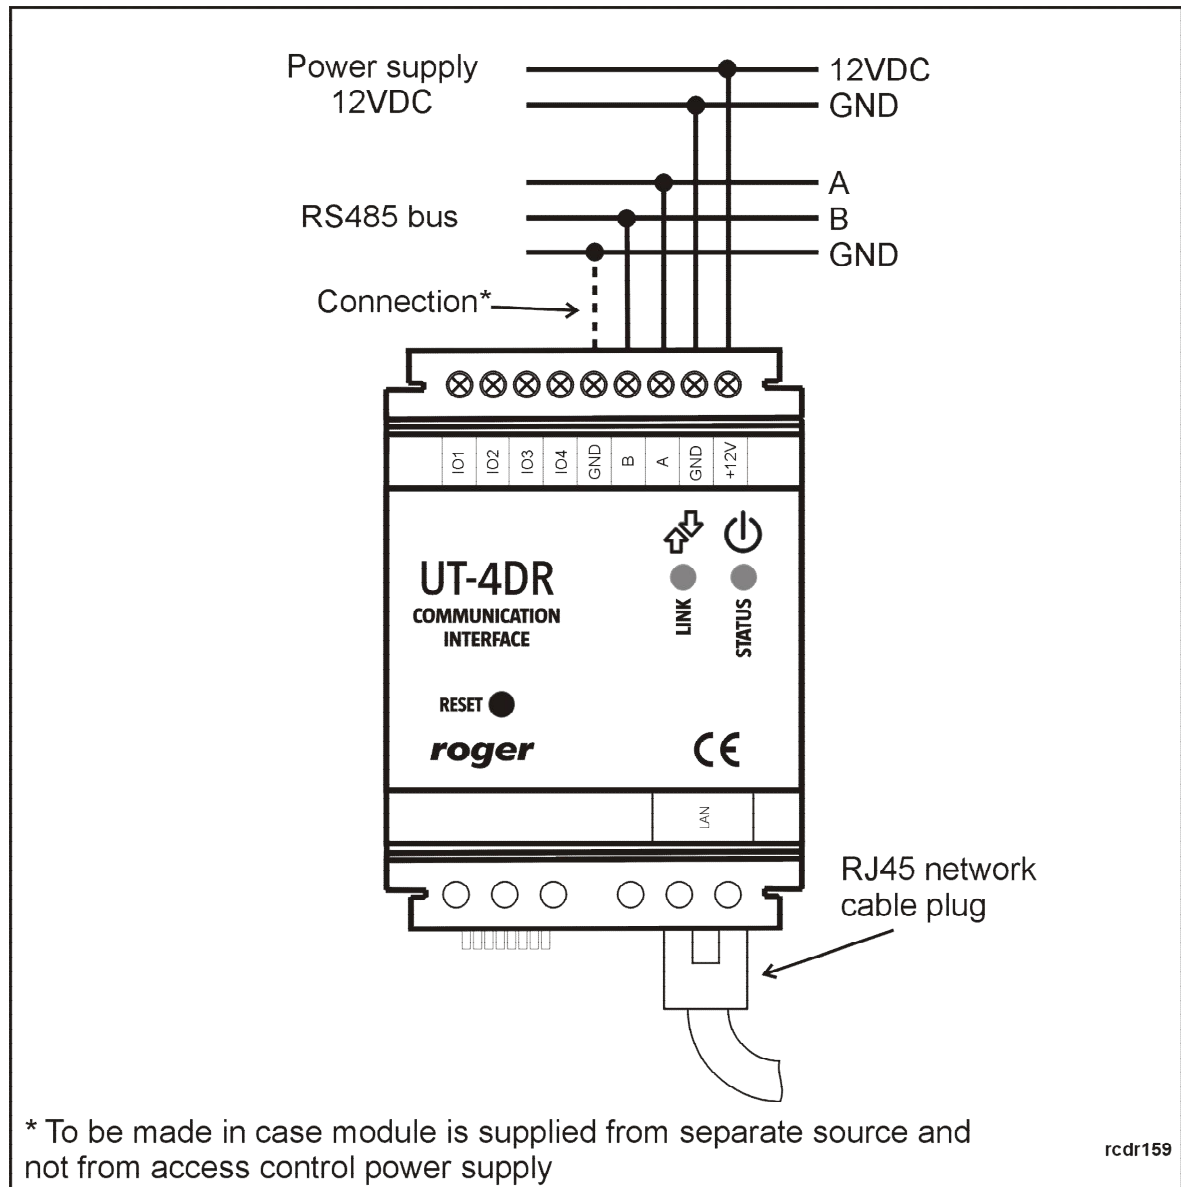

Fig.2 UT-4DR proposed connections diagram in RACS system.
UT-4DR is equipped with two LED diodes indicating actual state of a device (Fig.2). Bi-color LED LINK  $\text{⚡}$  informs about currently going transmission in RS485 bus, where green color means data sending, while red data receiving by a module.
The device is supplied from 12VDC voltage (acceptable voltage range 10-15VDC) which can be taken from access control system or from separate power supply source. In this second case it is essential to make electrical connection between power supply ground and RACS system RS485 bus ground (Fig.2).
- If UT-4DR module is supplied from an independent power source (separate from RACS system) it is strongly suggested to make a connection between RS485 and UT-4DR module grounds (Fig.2)